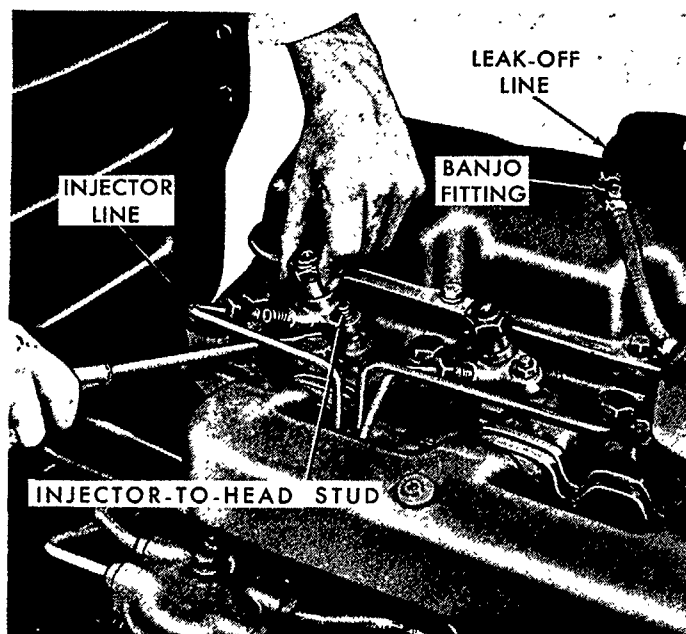

Figure 26
2. Disconnect the injector leak-off line, Figure 26, at each injector and at the fuel return line.